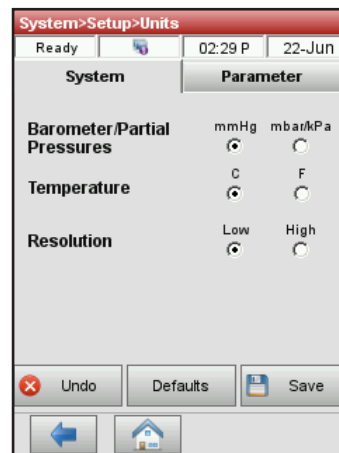

Figure 24. System Manager> Setup> Units screen
3. On the Units screen, select the desired unit of measurement (figure 24).